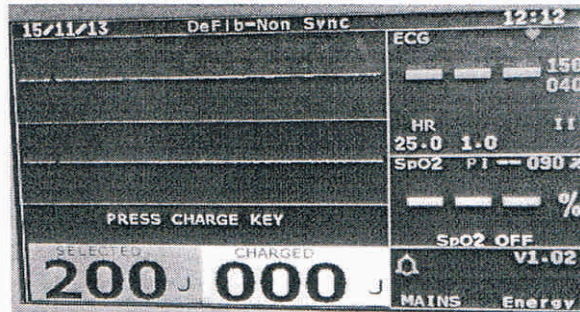

Fig 4.1: Acquisition screen in Non Sync Mode.
6. Rotate encoder (set energy knob) to select the desired energy level by in the range of 2 to 200 Joule. By default selection is at 200 Joule as shown in figure 4.1.